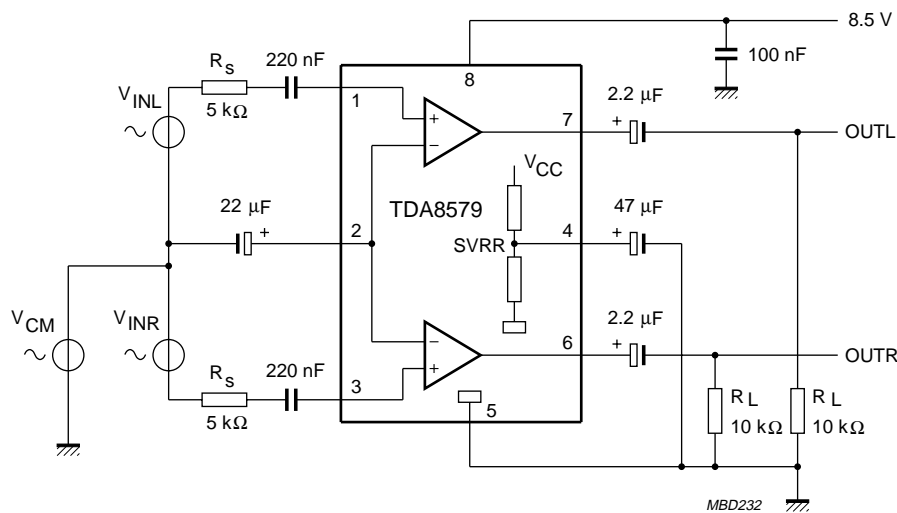

Fig.3 Test and application circuit.
$V_{CC} = 8.5\text{ V}$; $T_{amb} = 25\text{ }^{\circ}\text{C}$; $f = 1\text{ kHz}$; measured in test circuit of Fig.3; unless otherwise specified.
4. The common-mode rejection ratio is measured at the output with a voltage source 1 V (RMS) in accordance with the test circuit (see Fig.3) while V_{INL} and V_{INR} are short-circuited. Frequencies between 100 Hz and 100 kHz.